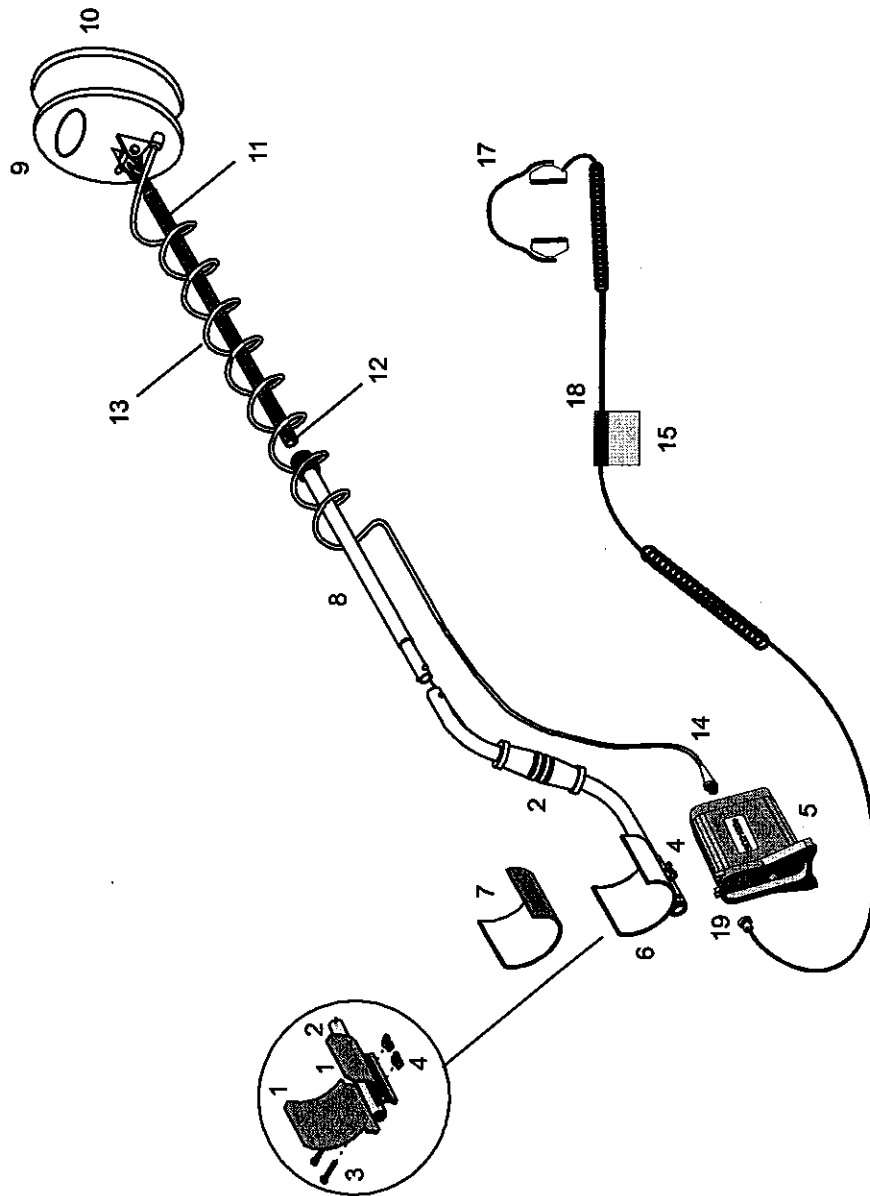

Figure 2 – SD 2100e components assembly
- a) Place the two *Armrest* halves (1) on either side of the *Upper shaft* (2) and ensure that the bolt holes line up. Make sure that the hand grip is in the upright position.
- b) Slide two Nylon bolts (3) through the holes and screw Nylon wing-nuts (4) onto the bolts with a couple of turns. (See insert, Figure 2.)
- c) With the detector stand at the rear, slide the 'T' section on top of the *Control box* (5) into the assembled *Armrest* (6). Tighten the Nylon wing-nuts (4) by hand.
- d) Push the *Armrest cover* (7) over the assembled *Armrest* (6).
- e) Slide the *Intermediate shaft* (8) into the end of the *Upper shaft* (2) and snap it into place.
- f) Ensure that the 11" *Coil* (9) has a *Skid plate* (10) fitted.
- h) Push the fibreglass (11) tube into the mounting bracket on the *Coil* and ensure that the spring clip (12) faces the rear of the *Coil*.
- k) Wind the coil cable (13) around the shaft and plug the coil connector (14) into the coil socket on the *Control box*. Ensure that the cable is firmly attached to the shaft without strain and cannot move around, especially near the *Coil*. Fasten the cable to the shaft with the supplied Velcro straps. Leave enough slack at the bottom of the cable near the *Coil* to allow the coil angle to be adjusted without placing strain on the coil cable. If the cable is able to move around, especially near the *Coil*, it will be 'seen' by the detector and cause random noises, which can be very confusing.